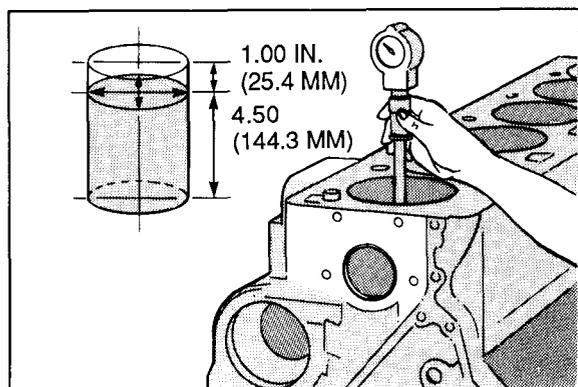

Figure 6-7
11. Check out-of-roundness and taper of bore. Tolerance for out-of-roundness is 0.0015 in. (0.038 mm) measured in 1.00 in. (25.4 mm) distance and tolerance for taper is 0.003 in. (0.76 mm) measured in 4.50 in. (144.3 mm) distance (Figure 6-7).